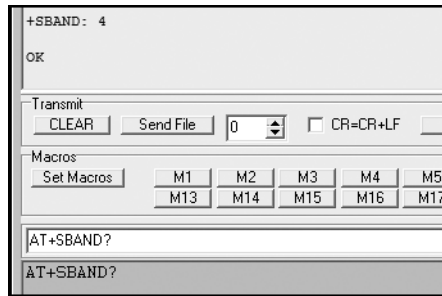

Figure 20-5: Example band interrogation
4. Enter the command **AT+SBAND?** and press ENTER. The module should reply with the current band settings, as shown in Figure 20-5.